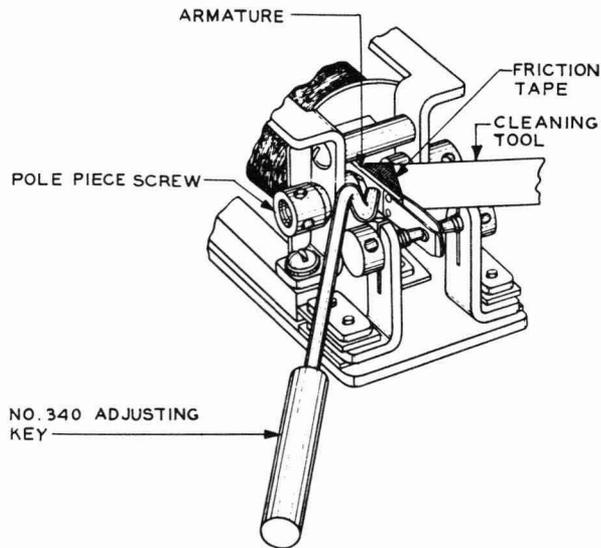

Fig. 50 – Method of Cleaning Pole-piece Screws on 206-, 209-, 215-, 227-, 228-, 231-, 239-, and 280-type Relays
7.09 To remove metallic particles from the pole-piece screws, use a tool made out of a piece of thin stiff metal (preferably nonmagnetic) over which is wrapped a layer of friction tape with the stickier side toward the blade. Place the taped portion of the tool between the pole-piece screw and the armature. Using the No. 340 adjusting key, press the armature against the taped portion of the cleaning tool, as shown in Fig. 50, so as to cause any particles present to adhere to the tape. Do not rub the tape over the screw and armature as this tends to leave a residue from the tape on these parts. Do not use the tape after it has lost its tackiness.